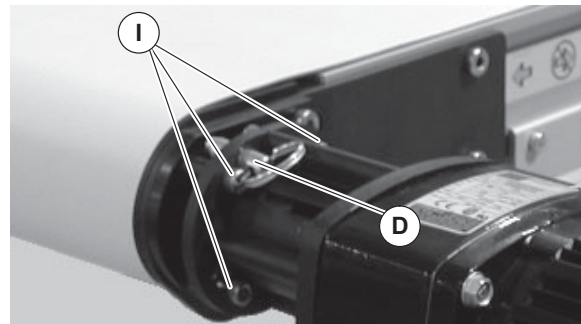

Figure 6
5. Tighten screws (Figure 6, item I) to 146 in-lbs (16.5 N-m) and install anti rotation pin (D).